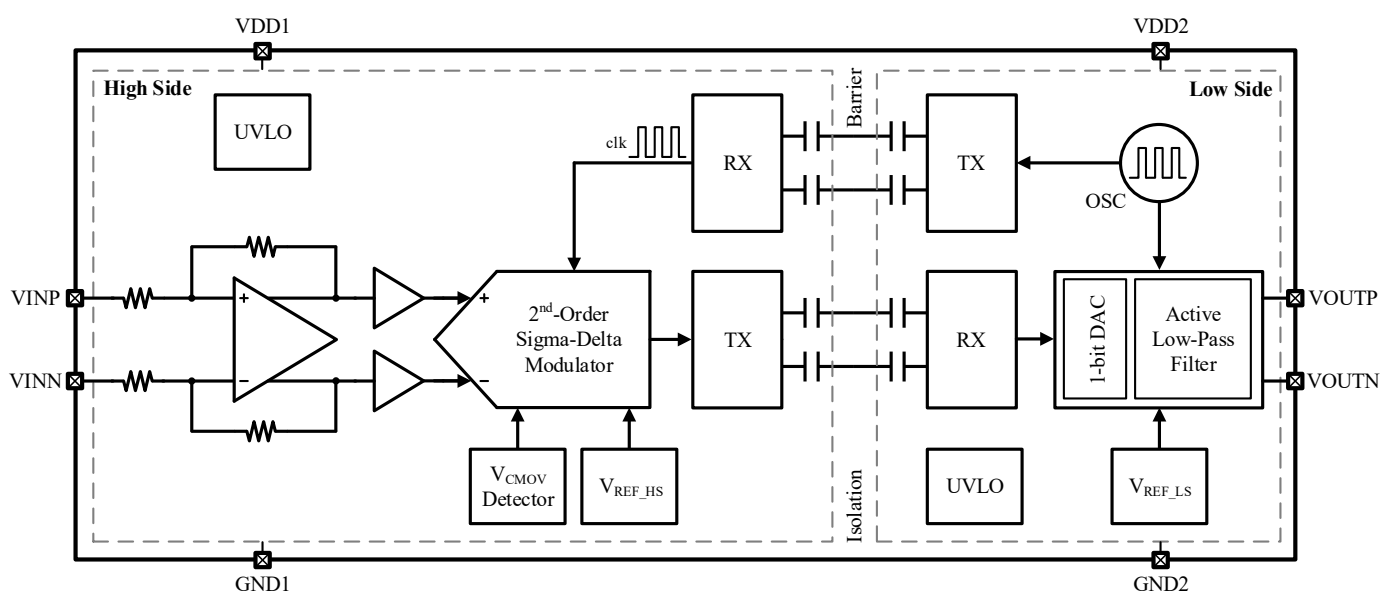

Figure 9-1 Functional Block Diagram of CA-IS1300x
The CA-IS1300x devices are high-precision isolated amplifiers designed for shunt-resistor-based current sensing. The functional block diagram of this device is shown in Figure 9-1. At high side, the fully differential amplifier pre-amplifies the measuring voltage across a shunt resistor and then drives a 2nd-order Sigma-Delta ( $\Sigma\Delta$ ) modulator. This modulator converts the analog signal to a digital bitstream. For transmission across the SiO2-based isolation barrier, the digital stream is further modulated with a high-frequency carrier using a simple on-off keying (OOK) modulation scheme. The receiver (RX) recovers the modulated signal to the original digital bitstream at low side. After processed by a 1-bit digital-to-analog converter (DAC), the digital bitstream is sent to an active low-pass filter to produce the analog output. For synchronization of the whole chip, the clock is generated at low side and sent back to high side ensuring that all clocks come from one source.